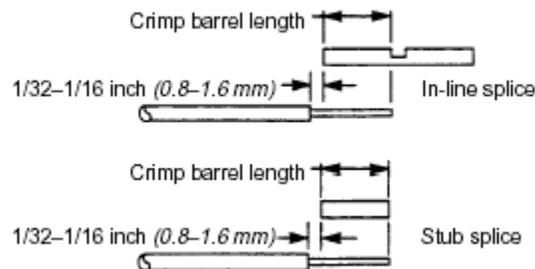

Figure 20-21 Insulation Strip Length
2. The strip length for a particular crimp splice equals the length of the crimp barrel plus 1/32–1/16 inch (0.8–1.6 mm) as shown in Figure 20-21.